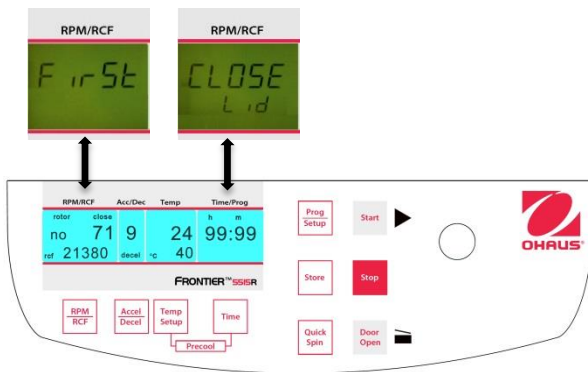
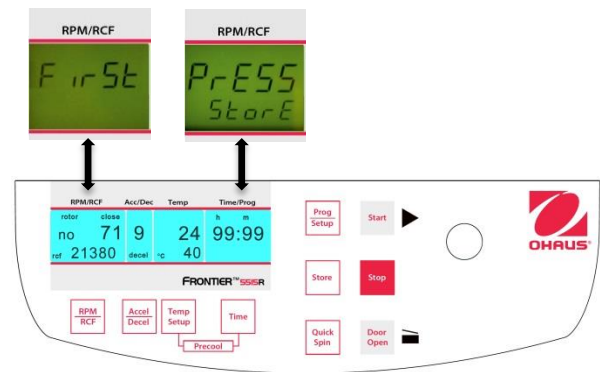

Figure. 23
Figure. 24
Lose the lid of the centrifuge. Now proceed as described previously to set all important run parameters. If the lid isn't closed when storing the program, in the display "RPM/RCF" (A-1), the words "FirSt" and "CLOSE Lid" (See figure 23) flashes alternately. If you want to start the run without storing the program, in the display "RPM/RCF" (A-1), the words "First" and "PrESS StoreE" (See figure 24) flashes alternately.
For adaption of data press the key "Store" (12) (refer to figures 23 and 24) for approx. 1 second. If the program is stored correctly, the word "StoreE" appears in the display "RPM/RCF" (A-1). As a result, the word "programm" (M10) disappears.